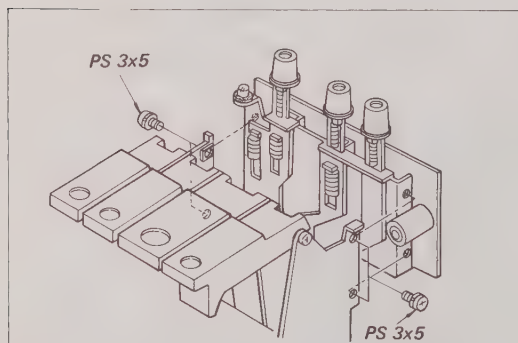

Fig. 5-27. Record-function button assembly removal
3. Remove the four PS 3x5 securing the record function button assembly to the bracket of function button assembly as shown in Fig. 5-27.
2. Remove the four PS 3x5 screws securing the record function button assembly to the function button assembly bracket as shown in Fig. 5-27. This frees record function button assembly.
3. Remove the three PS 3x5 screws securing R board to the record function button bracket, and then replace it to the new record function button assembly. See Fig. 5-27.